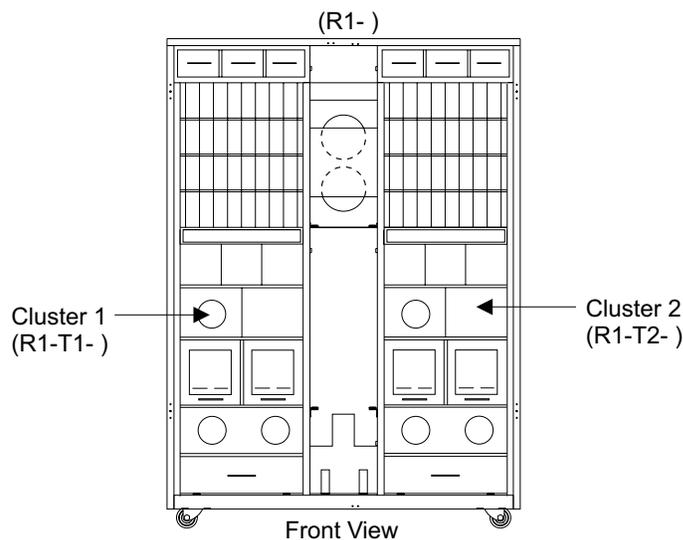

Figure 200. 2105 Model E10/E20 Cluster Bay Locations (S008091m)
2. Locate the memory module connectors and determine which module you are replacing, see Figure 200: